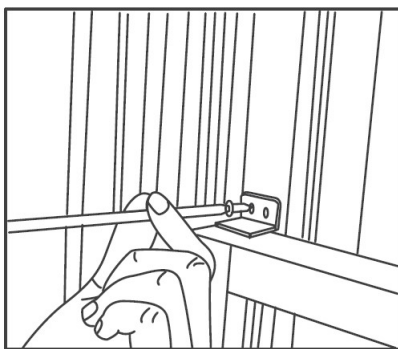

Fig.13
- To secure the lower sash into place, use the sash lock and a 3/4" screw as shown below. (See Fig.13)